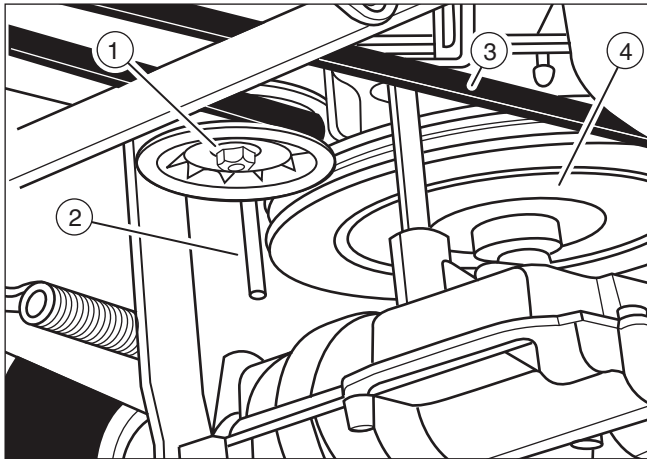
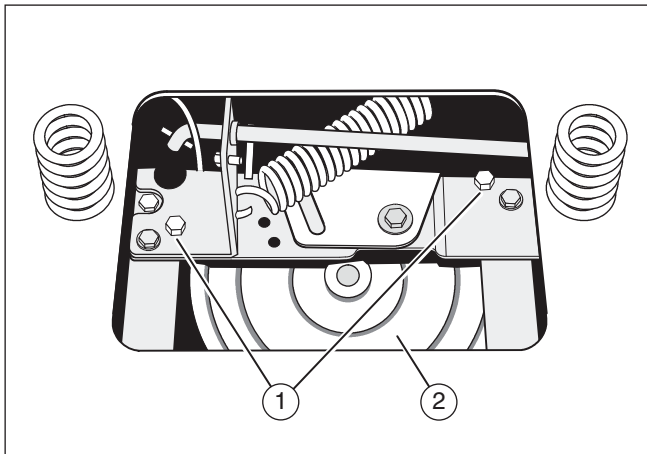

Figure 32
Figure 33
3. Remove the idler pulley (1) (see **Figure 32**).
4. To access the belt guides (1), remove the battery and battery tray (see **Figure 33**). See "Remove the Battery."
5. Loosen the belt guides (1) at the drive pulley (2).
6. Remove the motion drive belt (3) from the drive pulley (4) (see **Figure 32**).